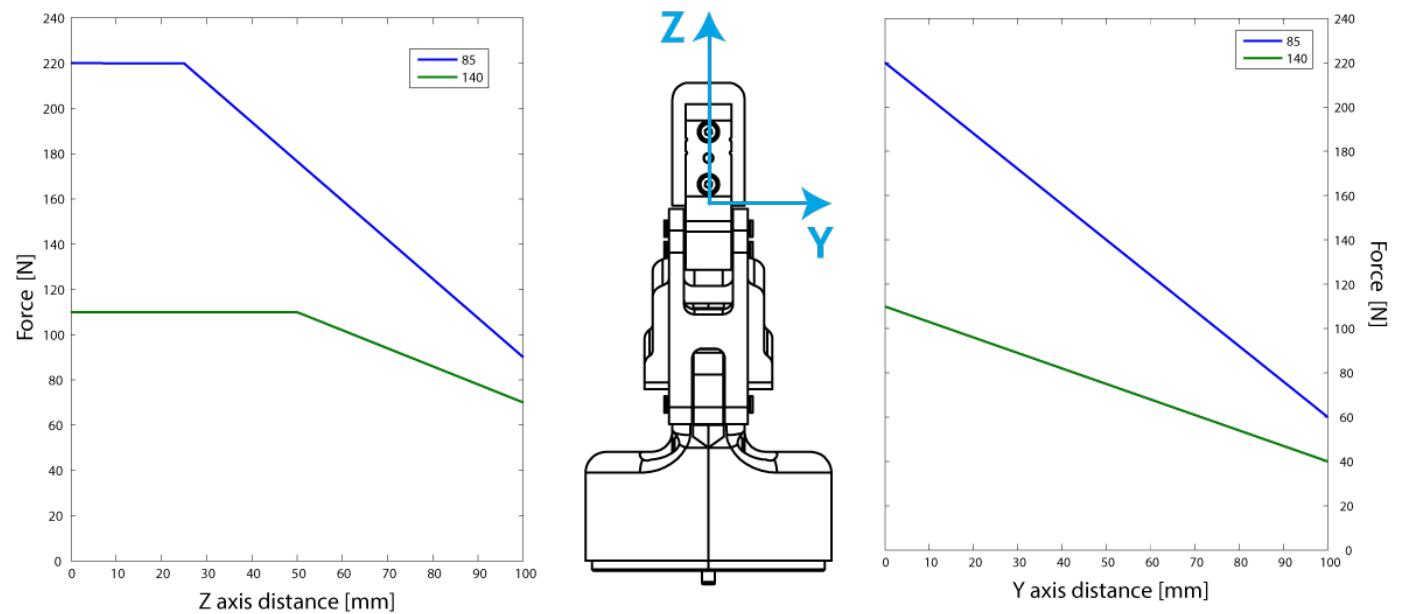

Fig. 6-18: Grip force in the Y and Z axis for the 2-Finger 85 and 2-Finger 140.
- Fingertip must not exceed 100 mm in width from the fingertip's base (refer to Y axis from figure 6-18).
The user of the Gripper must always ensure that the result of the forces against the finger is always lower than the maximum holding force as seen in figure 6-18.
\* Moments in x and y are calculated from the base of the fingertips as shown in figure 6-18.